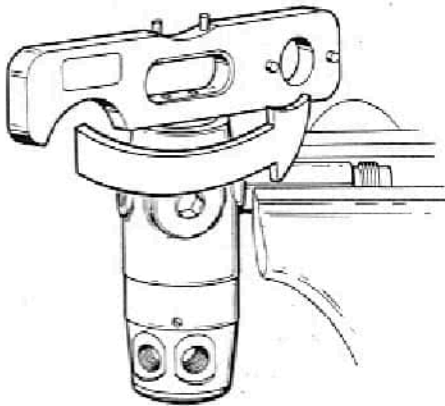
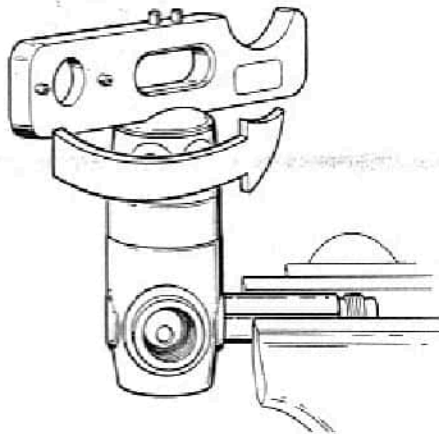

Fig. 2 - HP End Plug Removal
Fig. 3 - Swivel Retainer Removal
9. While holding the inlet fitting secure, use a flat bladed jeweler's (2.0mm) screwdriver to carefully press one side of the filter retainer(7) inward and lift up to remove, using caution to avoid damaging the inlet fitting. Insert the screwdriver through the small opening of the inlet fitting to press out the conical filter(8), and discard the filter and retainer.
10. Remove the recessed filter O-ring(9) inside the inlet fitting and discard. Set the inlet fitting aside.
12. Loosen the vise and reposition the first stage to stand vertical, with the high pressure end plug(24) facing straight up, and refasten the vise securely onto the vise mounting tool.
13. Apply the No. 1 Spanner of the Quad Spanner Wrench (P/N 1077-50) to the end plug, and hold it securely seated while turning the end plug counterclockwise to loosen it completely from the body(17) (see Fig. 2).
14. Lift the end plug out of the body, and remove the high pressure seat(22) and O-ring(23). Discard these items, and set the end plug aside.
15. Loosen the vise to remove the first stage, and turn the body over to allow the secondary spring(21) and thrust bearing(20) to drop out onto the bench. Set the thrust bearing aside, and inspect the secondary spring closely with a magnifier to check for any signs of pitting, rusting, or other corrosion that has permeated the surface of the metal. If corrosion is found, discard and do not attempt to reuse.
17. Apply the No. 3 Spanner of the Quad Spanner Wrench to the swivel retainer(34), and hold it securely seated while turning the retainer counter-clockwise to loosen and remove (see Fig. 3). Set the swivel retainer aside.